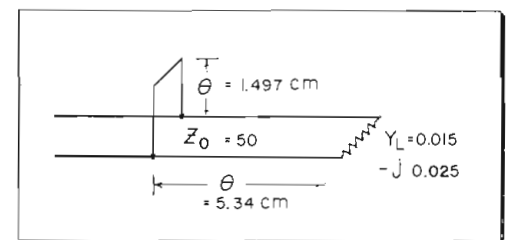

Fig. 6: Single stub impedance match (Fig. 7)
**EXAMPLE 8:** (See Figs. 6 and 7.) A 50 ohm line  $220^\circ$  long is terminated in an admittance of  $0.015 - j0.025$  mho. Find the length and position of a shorted stub which, when placed as close to the load as possible, will cause the line to be flat or nonresonant, from the stub back to the generator.